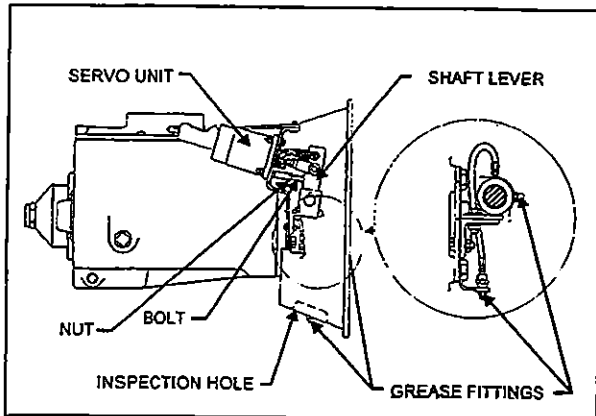

Figure 4: Clutch Installation
1. Remove inspection cover at bottom of clutch housing (Fig. 4).
2. If clearance is incorrect, adjust bolt until it touches the shaft lever and locks in position with nut (Fig. 4).
1. Locate the bleed valve mounted at the end of servo unit. Remove dust cap (Fig. 4 and 6).
The clutch components should be lubricated every 6,250 miles (10 000 km) or twice a year, whichever comes first (refer to previous Fig. 4 to identify the clutch component grease fittings). The clutch release bearing (one grease fitting) and the clutch control cross shaft (three grease fittings, two on the operating cylinder side and one on the other side) should be lubricated with a good quality lithium-based soap or equivalent E.P. grease meeting N.L.G.I. grades 1 or 2.